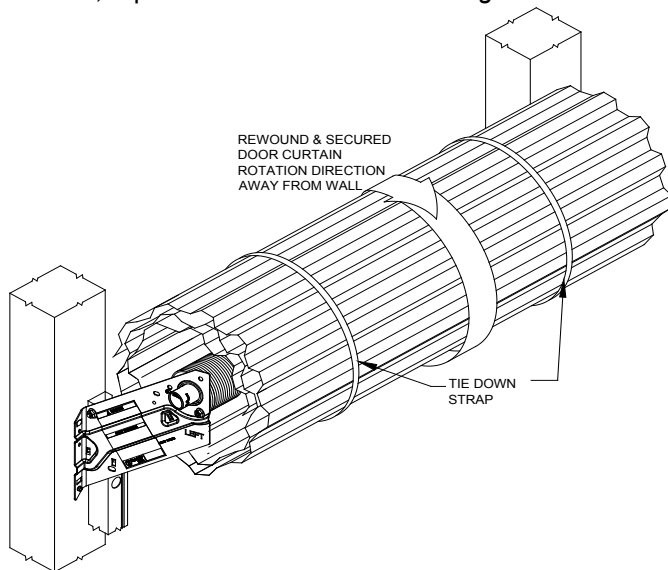

Figure 1.
2.2 Open the door but **DO NOT** allow it to come out of the guides. Use two tie down straps to secure the door curtain in a roll as it comes out of the guides. If tie down straps are not available, rope can be substituted. See Figure 1.
10. Reapply tension to door by spinning the door three times (approx.) toward the header (opposite direction as Figure 1). Release tie down straps and guide the door back into the guides.